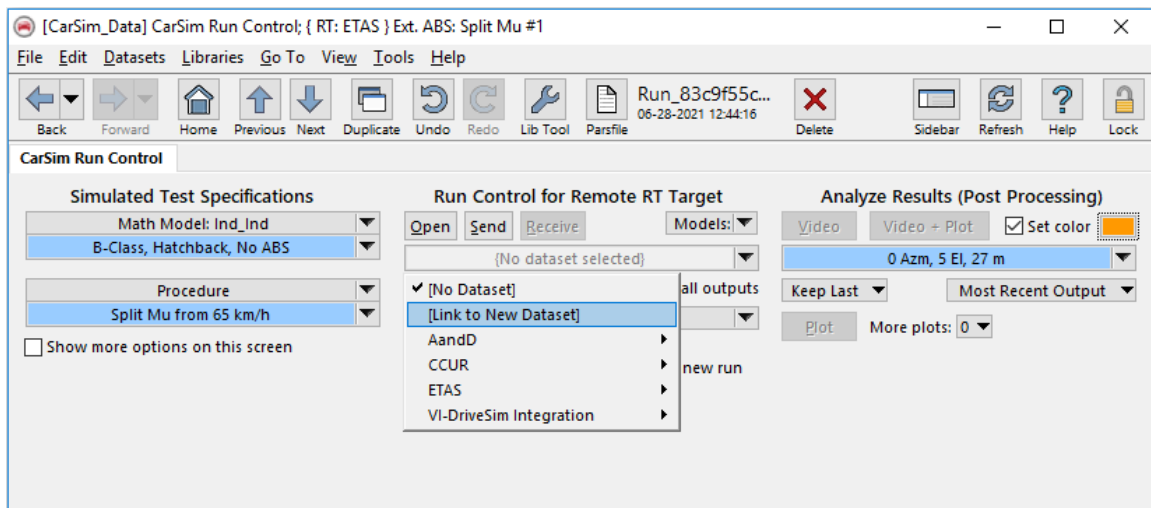

Figure 54. Make a new dataset in the Models: Transfer to Remote RT Target.
3. Use the dataset select control under the **Models** control and choose the option **Link to New Dataset** (Figure 54). Give the new dataset a name and category, such as COSYM Target as a category and Baseline FMU as a title.